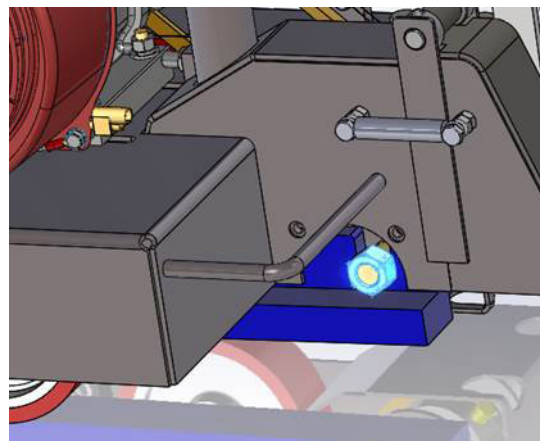

Figure 9. Shaft Nut Tightening
8. Finger-tighten nut back onto threaded end of shaft (Figure 9).